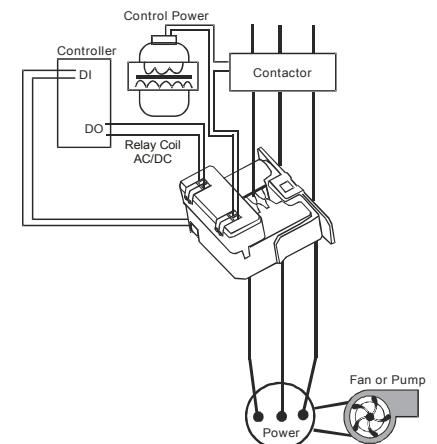

Figure 2: CSCGFN150R1/CSCGA2125R1
3. Wire the CSC/Command Relay as shown in Figure 2.